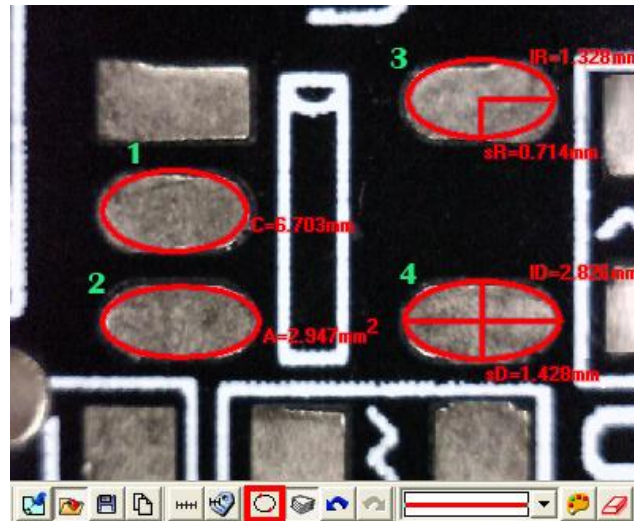

Fig 5-67 Oval
- (4) Oval: Measure an oval circle and use . Firstly choose Fig.5-67 Scale information setting dialog. To point any dot on an oval, pressing the left mouse button, and drag to fit the oval on an observation object. Same methods as Circle to be measured for 2 Points Circle and 3 Points Circle, 1st oval C=6.703m, 2nd oval A=2.947mm2, 3rd oval: lR=1.328mm, sR=0.714mm, 4th oval lD=2.826mm, sD=1.428mm.